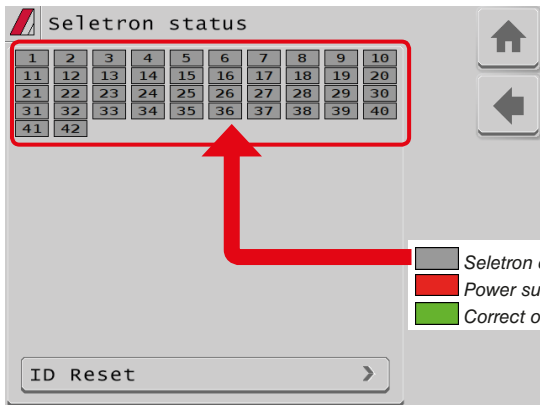

Fig. 85
- Make sure that ALL SELETRON DEVICES ARE DISCONNECTED: they must be shown on the display only with the symbols , as shown in Fig. 85.